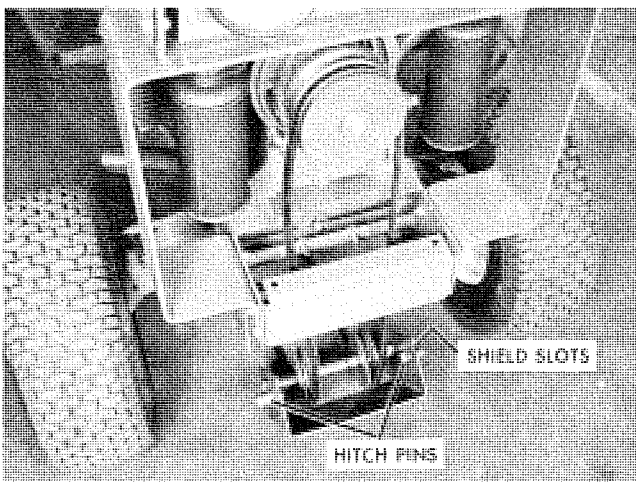

Fig. 6 — Belt Installation — Pulley Shield Removed
9. Install one end of the mower drive belt through the pulley and shield assembly and around the mower pulley. Install the other end of belt in the front groove of the PTO Pulley. See Fig. 6. Make sure the V-Belt strands fit properly in all pulley grooves.
10. Open front hitch latch and hold open with the locking spacer. Pulling forward and upward insert pulley shield assembly into hitch making sure to seat the shield slots around the latch shaft and the shield pins into the hitch slots. Lock the hitch latch and re-check to see that the assembly is aligned and locked properly. See Fig. 6.
4. Remove pulley and shield assembly from hitch. See Fig. 6.